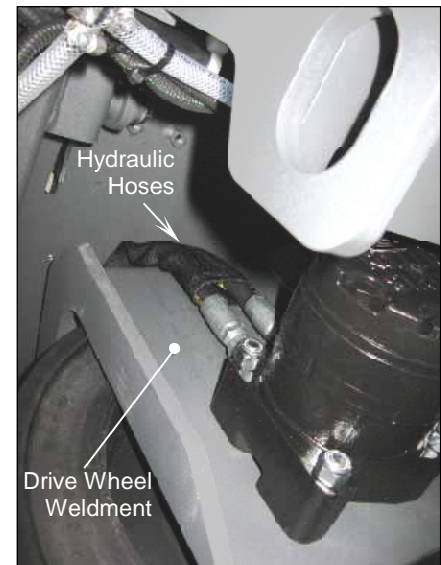
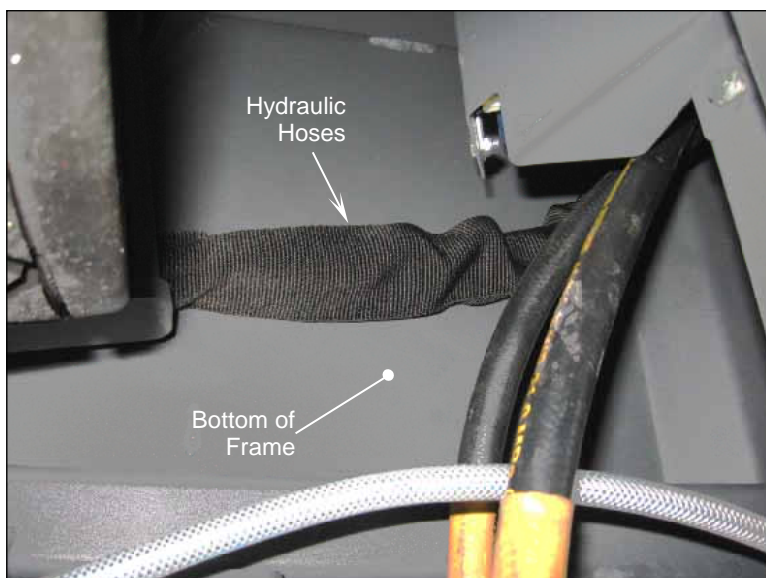

FIGURE 11
FIGURE 12
- 3 Make sure the Hoses are routed up and inside the channel in the Drive Wheel Weldment as shown in Figure 11, and flat against the bottom of the Frame as shown in Figure 12 below.
- 4 Twist the Hoses as necessary so they lie flat against the top of the Frame as shown in Figure 12, then tighten the fittings at the traction drive motor.